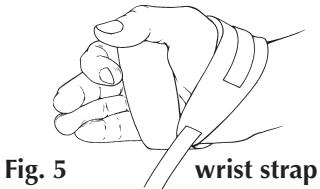
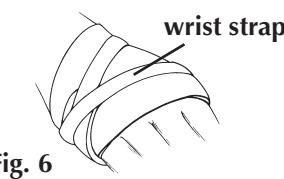

Fig. 5
Fig. 6
2. Wrap the wrist strap up and across the palm and attach starting near the base of the small finger and continuing toward the space between thumb and finger (Fig. 5). Properly placed straps should form an X or V pattern when viewed from the back of the hand (Fig. 6). Snug the Cuff enough to prevent movement on the hand but not so tight as to cause discomfort or finger swelling.